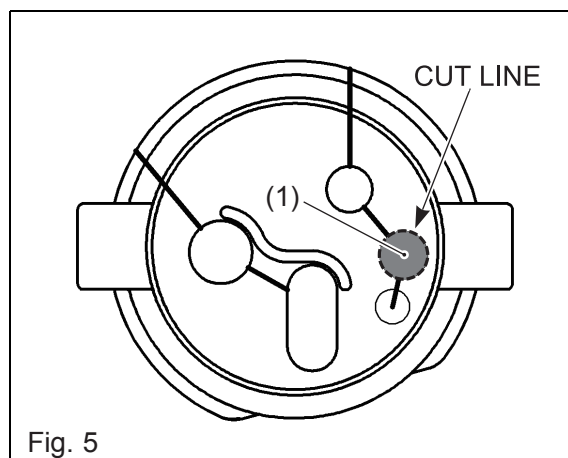

Fig. 5
8. Cut the grommet as shown in Fig. 5.
9. Pass the engine adapter wire (1) through the position of the grommet as shown in Fig. 5.